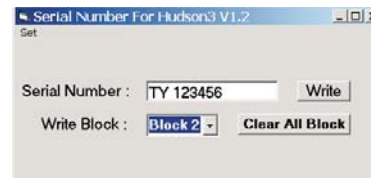

Fig.29
- Set Block2 as shown in Fig.29
- key in new serial number, then press " Write" button as shown in Fig.29 , Click " WRITE" button.